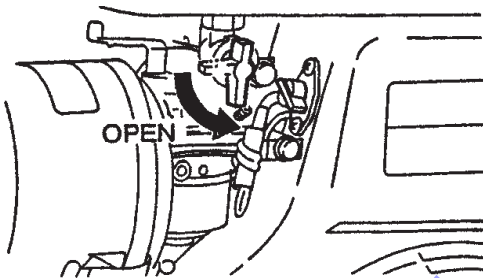

Figure 6. Engine Fuel Valve Lever (ON Position)
1. Place the engine *fuel valve lever* (Figure 6) to the "ON" position.